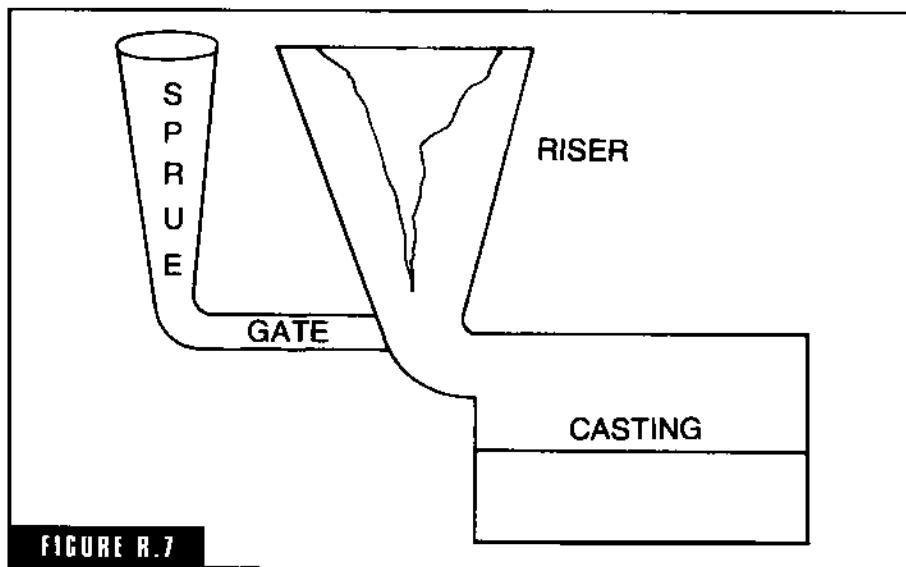

FIGURE R.7
**risers** A reservoir or reservoirs of excess molten metal designed to supply metal in compensation for the shrinkage that cannot be properly fed from the gate (Fig. R-7).